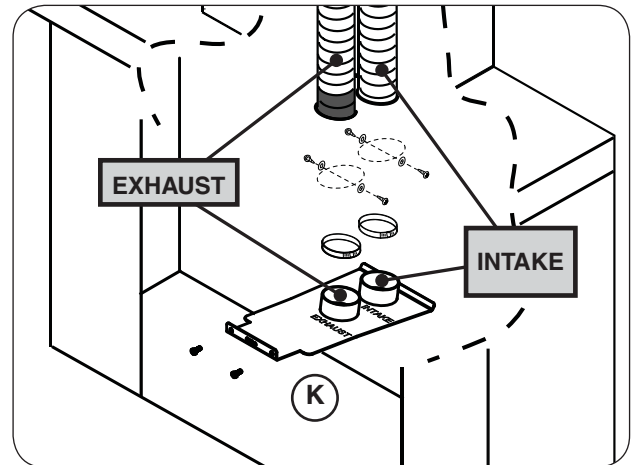

Fig. 25-2 Install vent adapter
11. Remove any excess slack in the pipes. Then attach the pipes to the vent adapter using only the four provided #10 x  $\frac{3}{4}$ " screws, flat washers, and a Phillips screwdriver. Further secure with the supplied pipe clamps. See Fig. 25-2, K.
**Important:** Ensure the marked / up arrow pipe is connected to the exhaust port on the insert. The vent adapter is permanently marked, see Fig. 25-2.